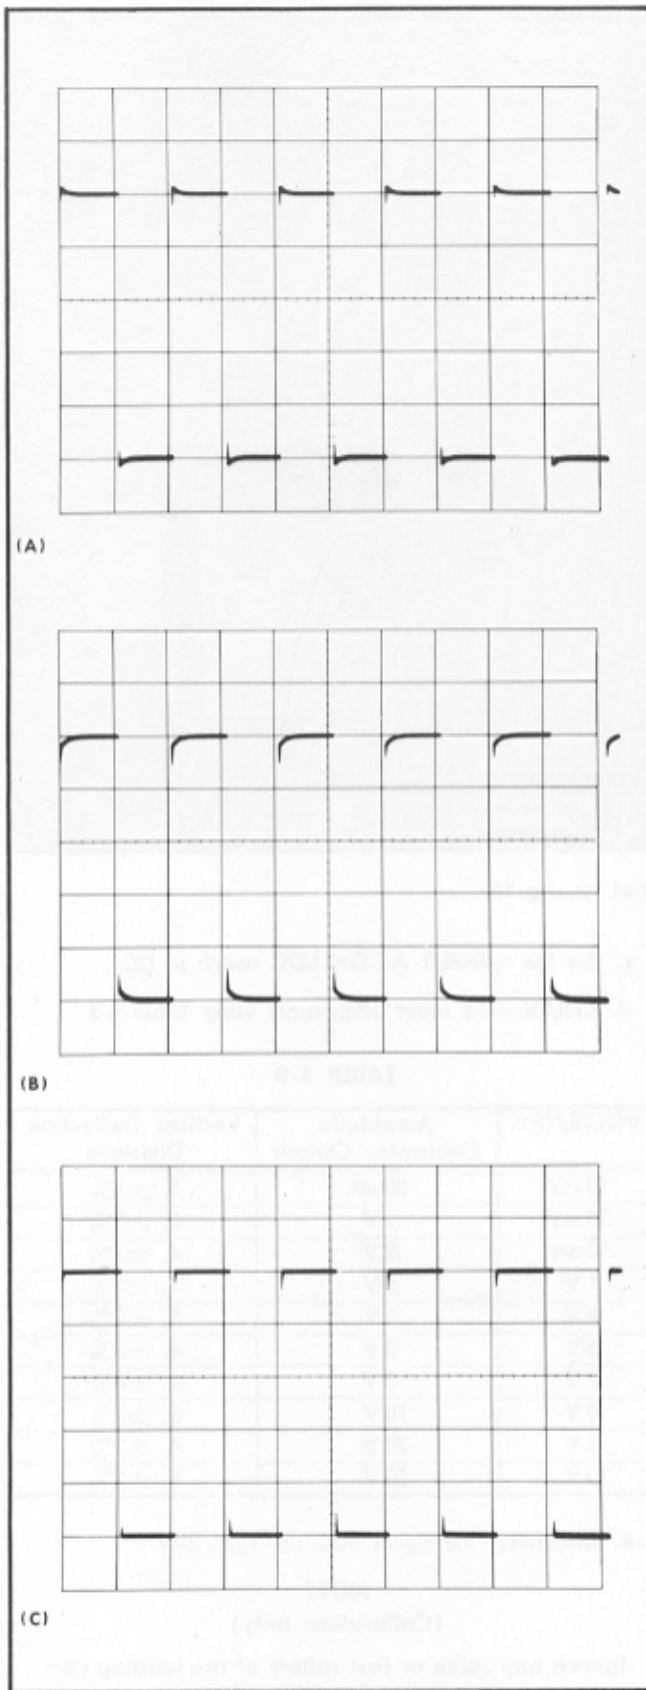

Fig. 5-15. Typical waveforms showing (A) and (B) C212 misadjusted and (C) C212 correctly adjusted.
- f. CHECK—The square wave upper leading corner for aberration (see Fig. 5-15).